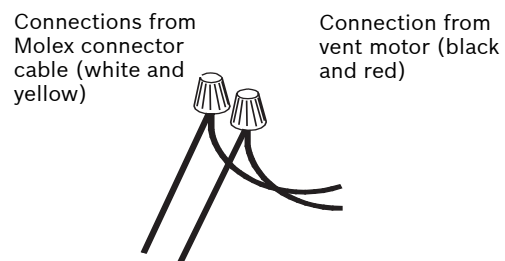

Fig. 10 Flow switch electrical connections
9. Connect control cable from vent motor to Molex connector cable with wire nuts as seen in Fig. 10.
9. Connect control cable to Molex connector cable with wire nuts as seen in Fig. 10.